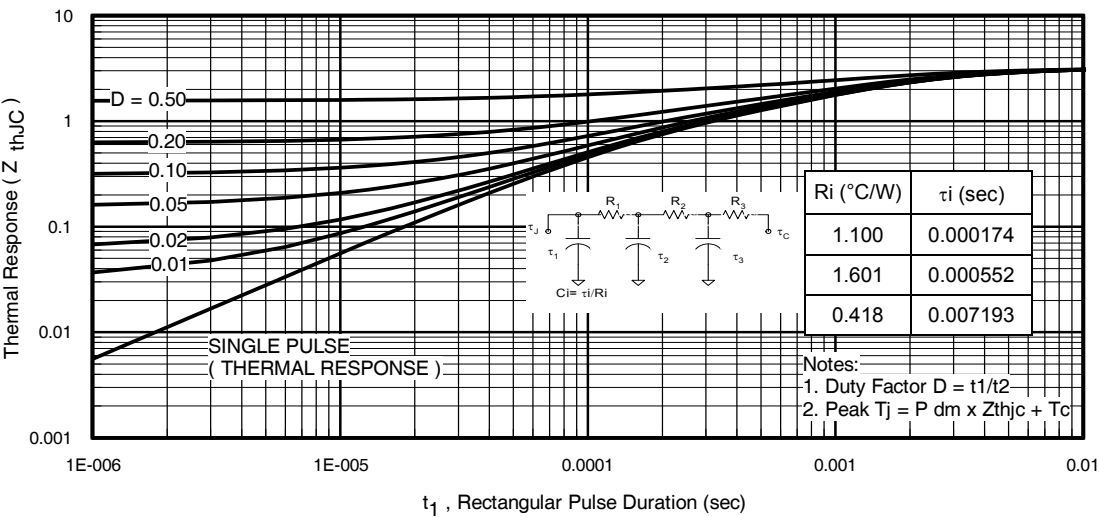
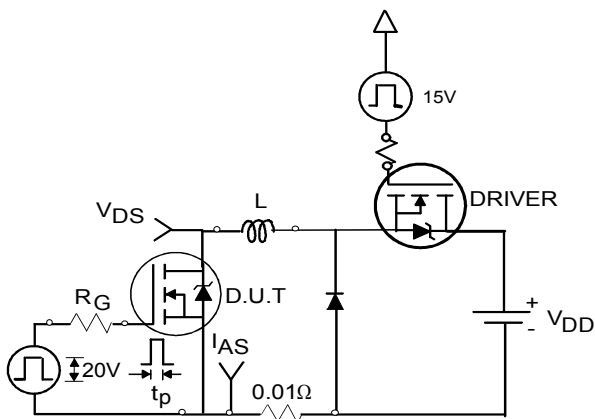

Fig 11. Maximum Effective Transient Thermal Impedance, Junction-to-Case
Fig 12a. Unclamped Inductive Test Circuit
- ① Repetitive rating; pulse width limited by max. junction temperature. (See fig. 11)
- ② Limited by T_{Jmax} , starting $T_J = 25^\circ\text{C}, L = 0.18mH, R_G = 25\Omega, I_{AS} = 18A, V_{GS} = 10V$. Part not recommended for use above this value.
- ③ Pulse width $\leq 1.0ms$; duty cycle $\leq 2\%$.
- ④ $C_{oss\ eff.}$ is a fixed capacitance that gives the same charging time as C_{oss} while V_{DS} is rising from 0 to 80% V_{DSS}
- ⑤ Limited by T_{Jmax} , see Fig.12a, 12b, 15, 16 for typical repetitive avalanche performance.
- ⑥ This value determined from sample failure population, starting $T_J = 25^\circ\text{C}, L = 0.18mH, R_G = 25\Omega, I_{AS} = 18A, V_{GS} = 10V$.
- ⑦ When mounted on 1" square PCB (FR-4 or G-10 Material). For recommended footprint and soldering techniques refer to application note #AN-994
- ⑧ R_θ is measured at T_J approximately 90°C .
3. Equation below based on circuit and waveforms shown in Figures 12a, 12b.